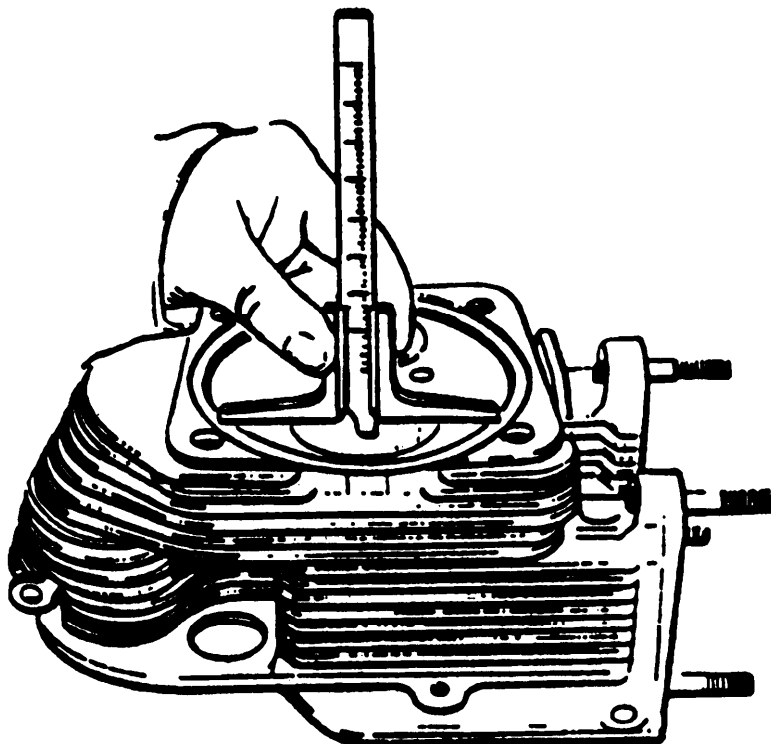

Figure 6-4. Valve Depth Measurement.
- g. Insert valve in seat and measure distance from crown of valve to cylinder head seating surface (figure 6-4). If distance exceeds specifications on either valve, (table 6-1), seat must be replaced.